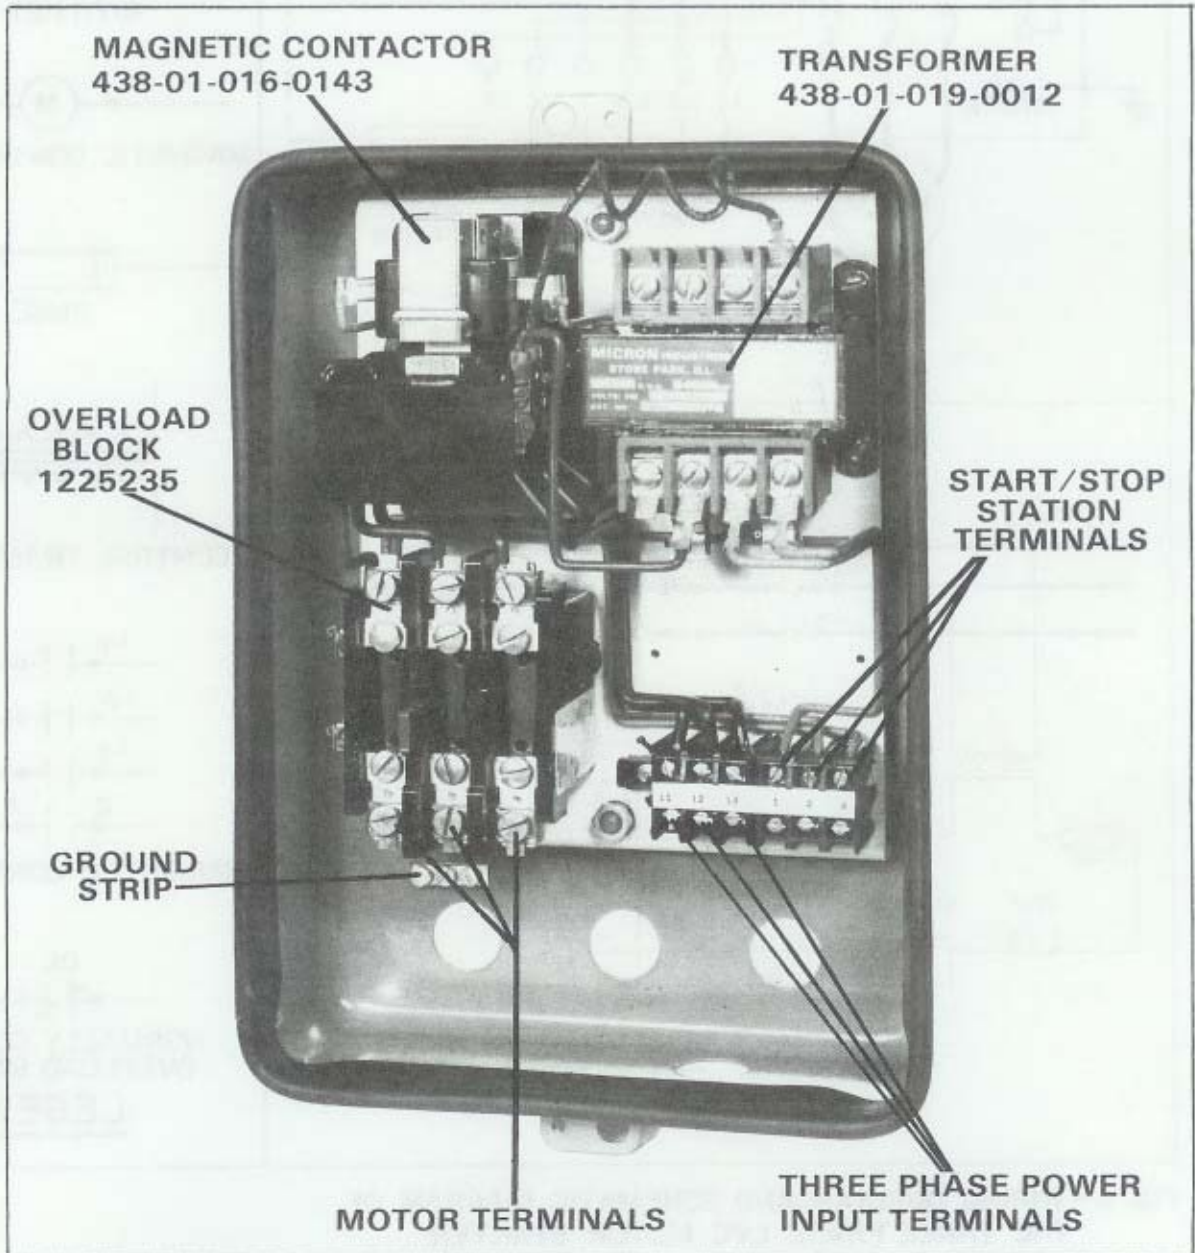

FIG. 5—STANDARD THREE PHASE MOTOR STARTER
Fig. 5 illustrates the standard three phase LVC motor starter, Rockwell Part No. 438-01-316-0073.
The three phase starter consists of four basic components: (1) overload block with heaters, (2) magnetic contactor, (3) transformer, (4) start/stop station. The start/stop station is not shown in Fig. 5. Neither are the input connections from the three phase motor or power supply.
The only difference between the 575 volt three phase LVC starter and the standard three phase starter, shown in Fig. 5, is the control transformer.
The control transformer in the standard three phase starter, shown in Fig. 5, has a multi-tapped primary which enables the starter to be used from either a 115, 200, 230, 400 or 460 volt three phase power system. In the special 575 volt three phase starter, the control transformer has a 575 volt primary so that the starter will only function from a 575 volt three phase power system.